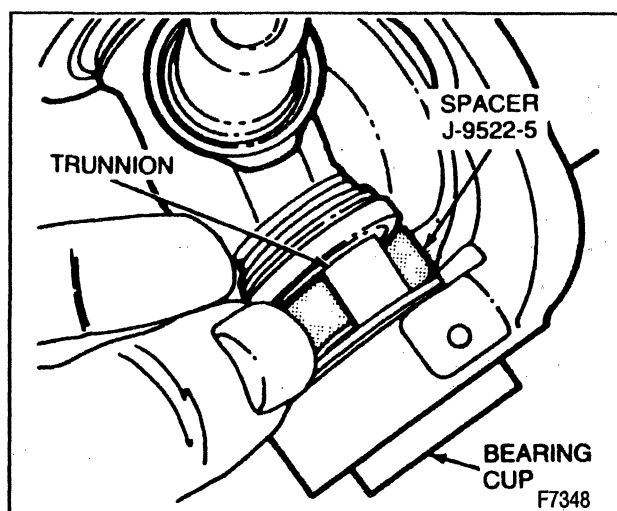

Figure 15—Using Available Spacer
- In order to shear the plastic retaining ring on the bearing cup, place J 9522-3 on the open horizontal bearing cups and press the lower bearing cup out of the yoke ear. If the bearing cup is not completely removed, lift the cross and insert tool J 9522-5 between the seal and bearing cup being removed and continue to press it out of the yoke (figure 15).
- Place J 9522-3 on the open horizontal bearing cups and press the lower bearing cup out of the yoke ear. If the bearing cup is not completely removed, lift the cross and insert tool J 9522-5 between the seal and bearing cup being removed and continue to press it out of the yoke (figure 15).